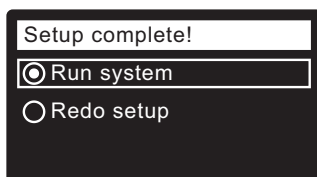

FIG. 29
22. Press the SELECT (O) button. The screen will show “Setup complete!” (See Figure 29).
23. If, at this point, you want to go back and make changes, press the DOWN (▼) button to scroll to **Redo setup**, then press the SELECT (O) button twice to repeat the “wizard” screens.
24. If no changes are desired, make sure **Run system** has a dot next to it (See Figure 29) and press the SELECT (O) button. The unit begins normal operation, described on Page 14.